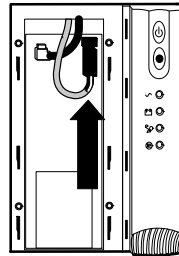

Figure 5. Connecting the Internal Battery Connector
5. Connect the red wire to the (+) battery connector (see Figure 5).